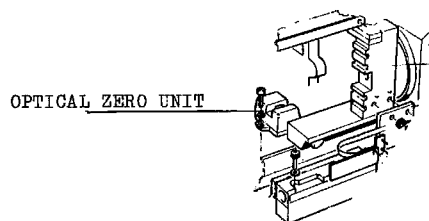

Fig. 7-32
5.9 OPTICAL ZERO UNIT (fig 7-32)